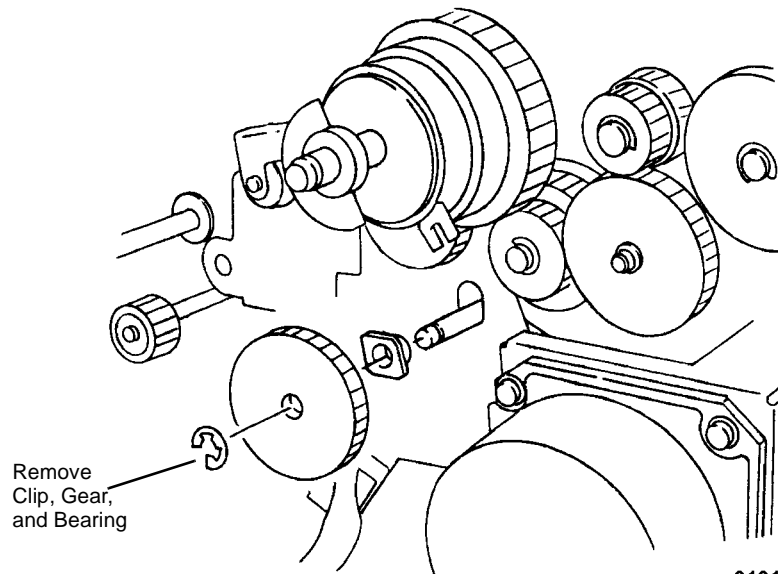

Figure 1 Removing Bearing
3. Remove the Bearing (**Figure 1**).